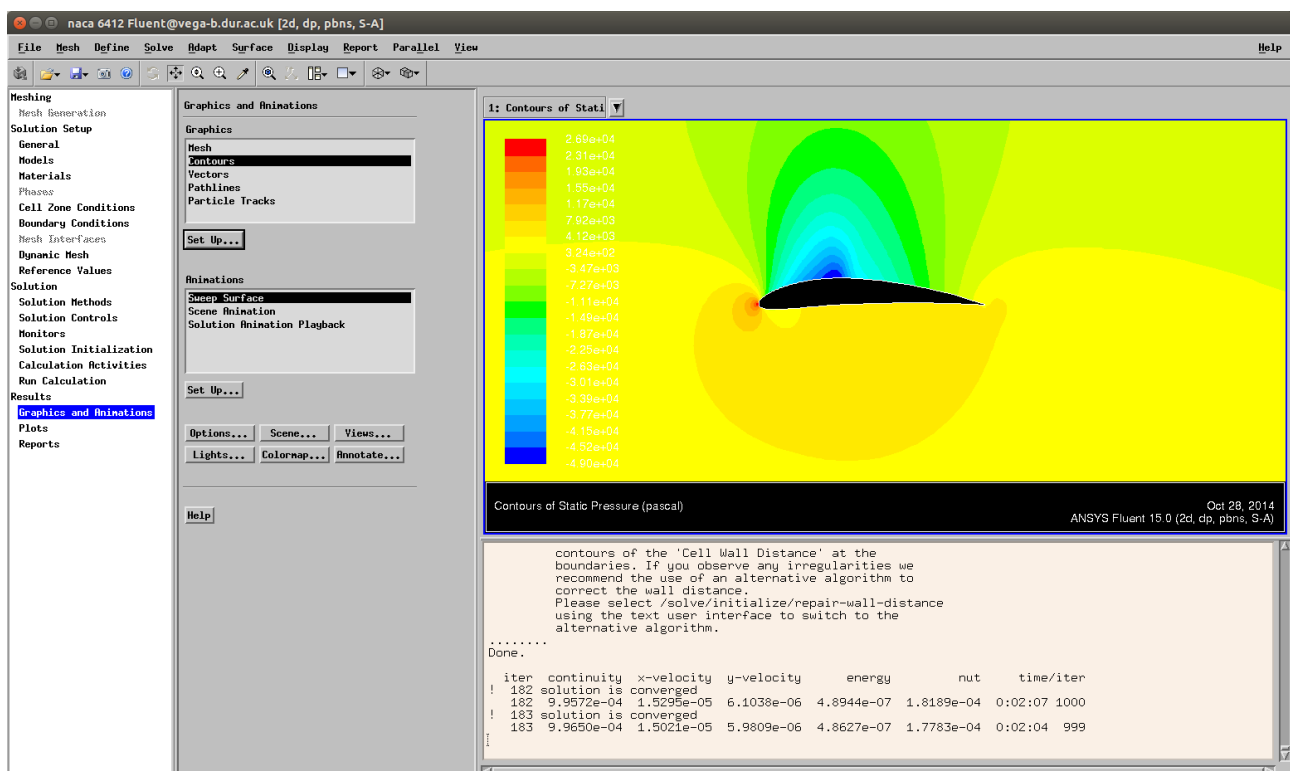

Figure 3: Solution on Pointwise Mesh
- You should end up with something like Figure 3